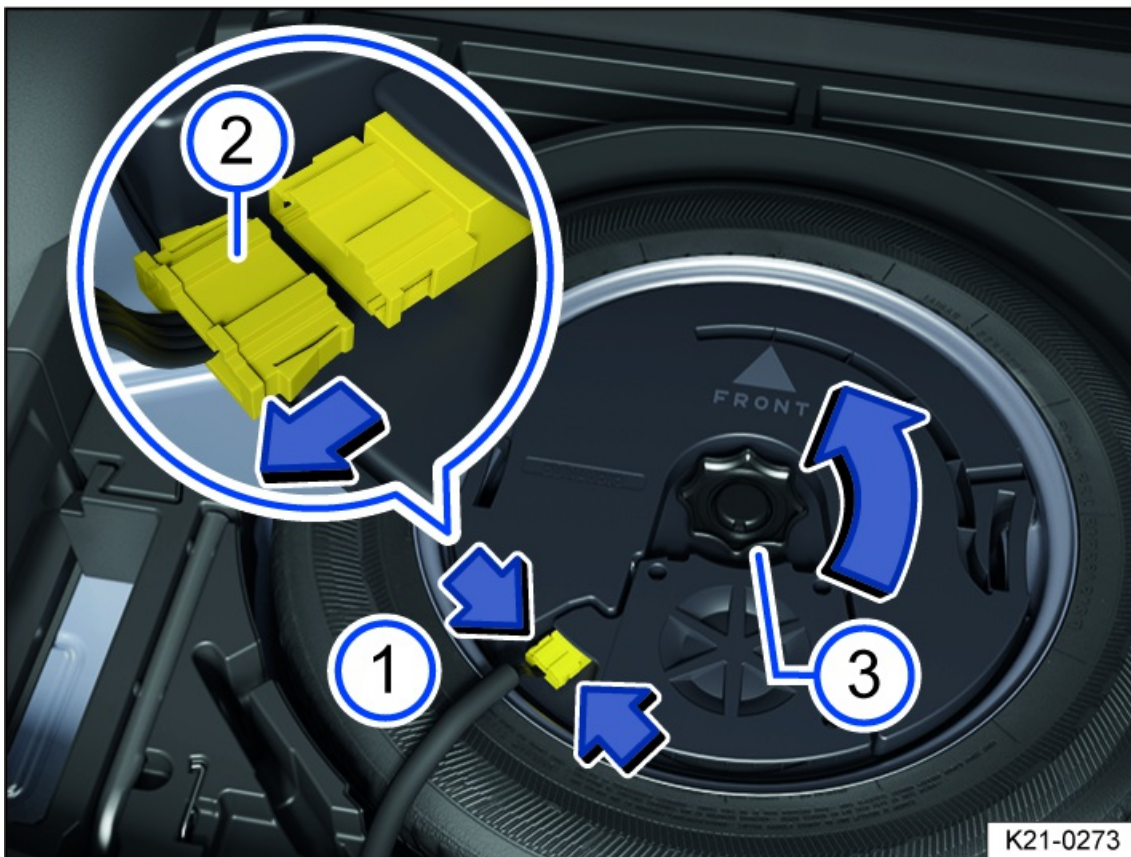

Fig. 220 Under the luggage compartment floor: removing the subwoofer (variant 1).
6. To release the connector, press the *fig. 220* lugs together (arrows ①).
7. Remove the connector *fig. 220* in the direction of the arrow and set the electrical wire that you have just removed to one
8. Unscrew the handwheel *fig. 220* in the direction of the arrow.
2. Plug in the connector *fig. 220* until it audibly engages.
3. Turn the handwheel *fig. 220* on the threaded pin in the opposite direction to the arrow until the subwoofer is securely fastened.